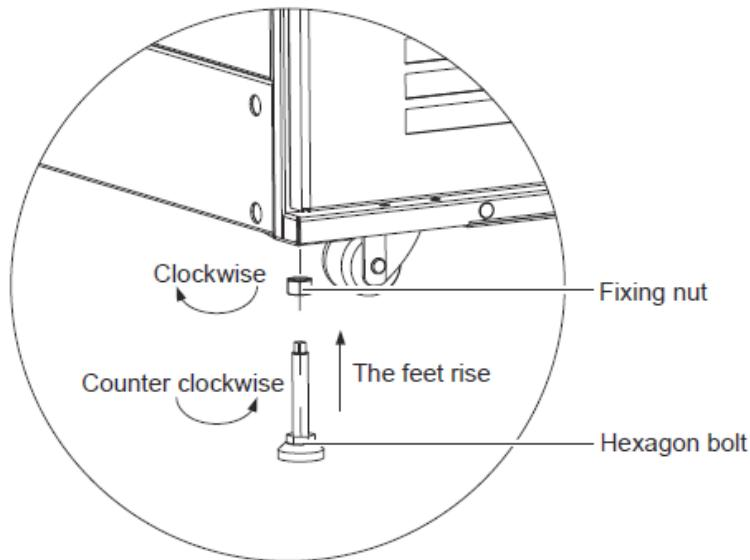

Figure 2-17 Loosening the fixing nut
1. Place the cabinet in the prearranged position and use a movable wrench to loosen the fixing nuts on the 4-feet bolts on the cabinet. Figure 2-17 shows the procedure for the same.
3. Tighten the fixing nuts (as shown in Figure 2-17) on the feet bolts counter-clockwise following which the cabinet adjustment is completed.